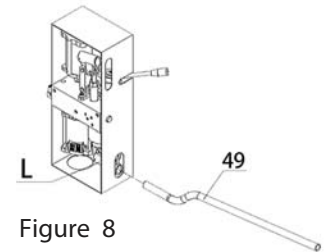

Figure 8
14. When operating the low pressure pump for high speed, insert the pump handle (#49) into the lower socket (L). (Figure 8)